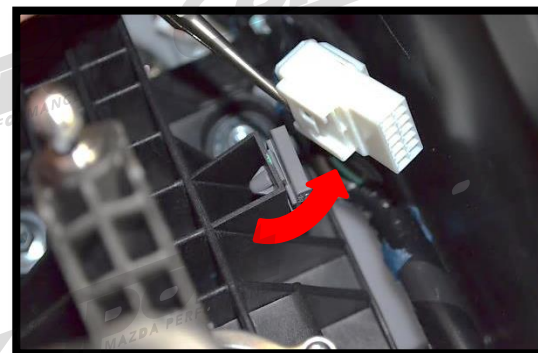

Figure 1f
f) Slide the electrical plug off the shifter housing and push it aside (Figure 1f).
- i) Clip the wiring harness back onto the shifter housing (Figure 1f).